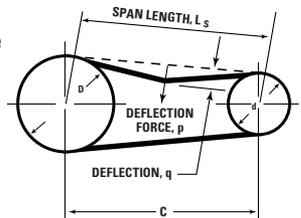

Figure 2
1. Measure the span length of the drive. (See Fig. 2). Set the large "O" ring at 1/64" for each inch of belt span. For example, set the large "O" ring 1/4" for a span length of 16," at 1/2" for a span length of 32," at 1" for a span length of 64" etc.